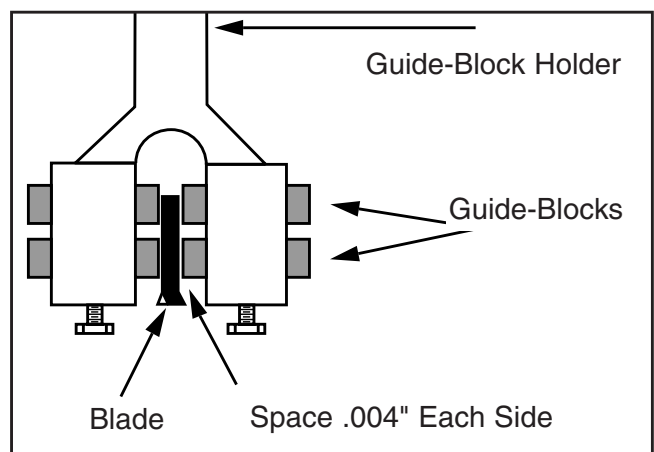

Figure 28. Proper guide block adjustment.
2. Clearance between the blade and the guide-blocks should be .004" (similar to the thickness of a dollar bill). For an easy gauge, fold a dollar bill in half and place each half on each side of the blade as in **Figure 28**.